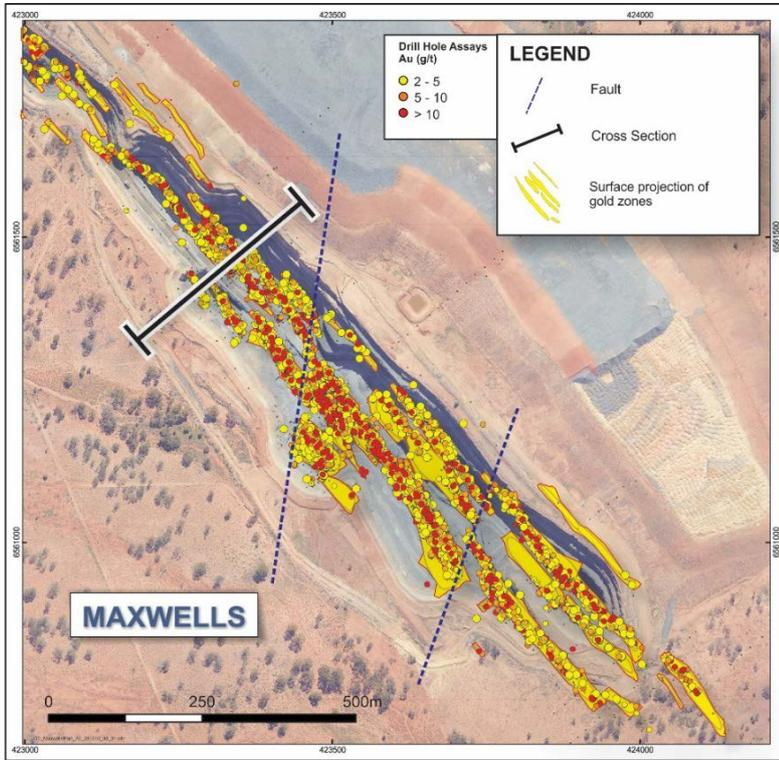

Figure 8: Plan view of Maxwell's deposit area, showing location of Figure 9 cross section.
- 4.8m @ 19.44 g/t Au in 16MXRD080 (Figures 8 and 9);